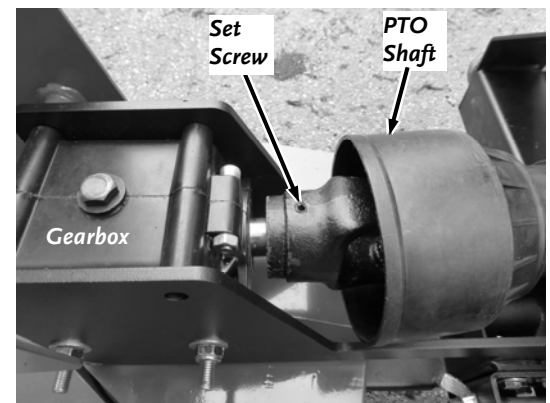

Figure 16
- Align the Key Slot of the PTO Shaft with the Key in the Shaft and slide it onto the Shaft (**Figure 16**).